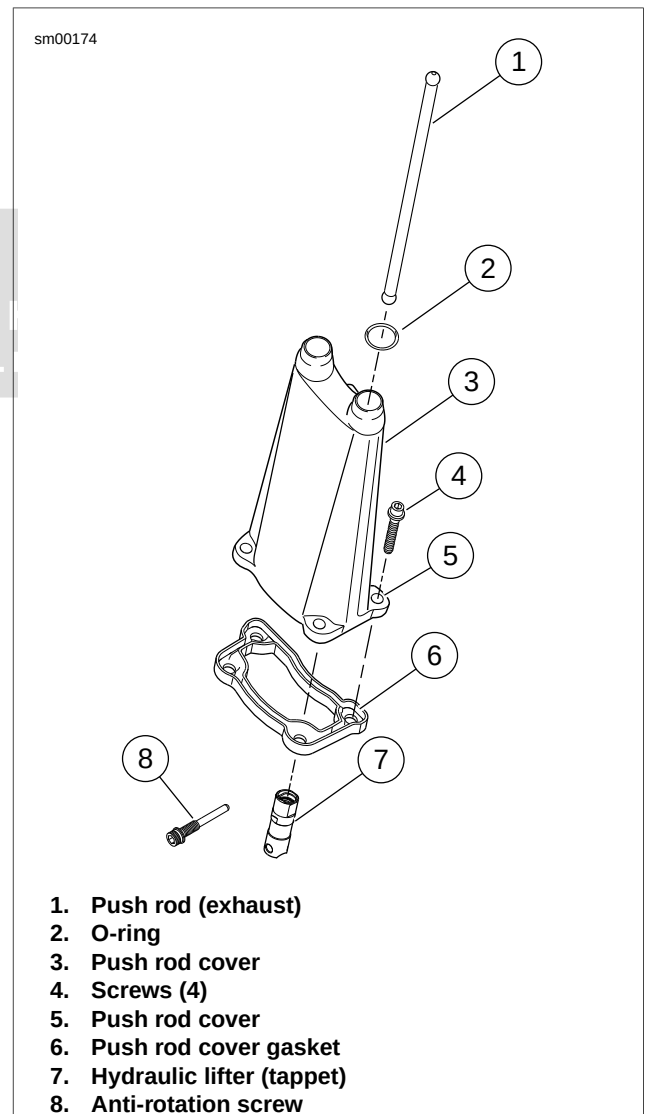

Figure 3-109. Valve Lifter Service
3. See Figure 3-109. Remove push rod covers.
- a. Remove screws (4).
- b. Remove push rod covers (3).
4. Remove valve hydraulic lifters (7).
- a. Remove anti-rotation screws (8).
3. See Figure 3-109. Insert lifter into bore in crankcase. Rotate lifter so that flats at upper end of lifter face the front and rear of the engine. If the lifter is installed incorrectly, anti-rotation screws cannot be inserted.
- a. Install anti-rotation screws with washers (8) in the holes in lifter block.